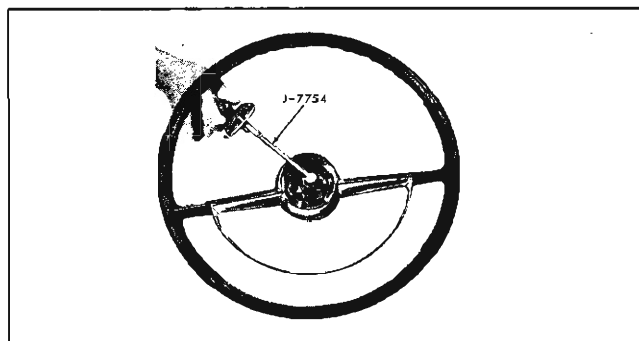

Fig. 9-5 Checking Steering Gear Adjustment
4. With 1b. in. torque wrench attached to a  $\frac{5}{8}$ "-12 point socket, measure and record a least  $30^\circ$  off center (Fig. 9-5).